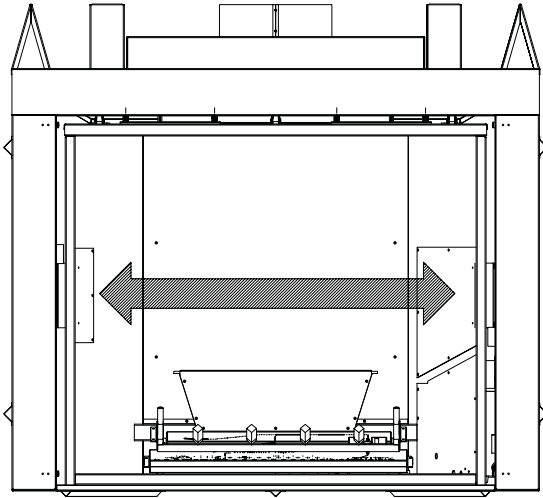

Figure 28 - Blower Access Plates
7. Remove the access covers on the right and left side walls of the firebox toward the front by unfastening the screws. **NOTE: The access covers are not identical.** See Figure 28